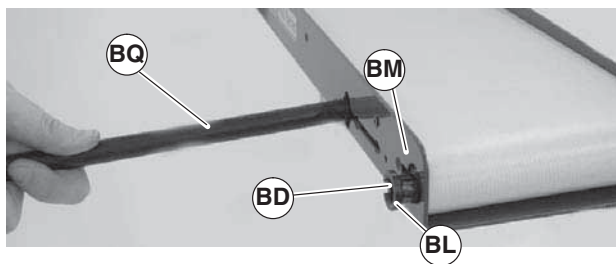

**Figure 49**
3. Using pulley installation tool (Figure 49, item BQ) as a lever, align pulley bore (BI) with hole (BJ) in conveyor frame.